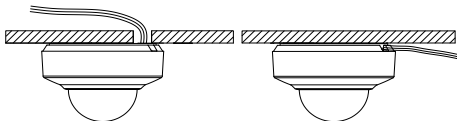

Figure 2-34 Cabling for DE2xxx Series PTZ Camera
3. Drill a cable hole in the ceiling according to the circle A on the template if you want to route the cables through the ceiling. Pull out the cable slot cover if you want to route the cables on the surface of the ceiling, as shown in Figure 2-34.